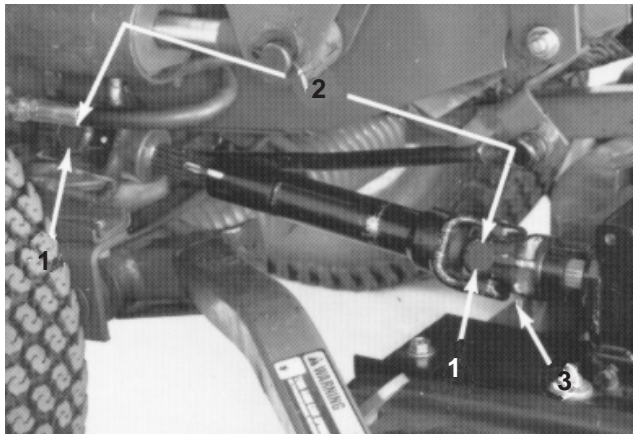

Figure 7
1. Line up the holes in the yoke and input shaft of the gear box. Slide the yoke onto the shaft and secure them together with a roll pin and 2 capscrews (5/16 x 1-3/4 in.) and locknuts (51/6 in.) (Fig. 7).